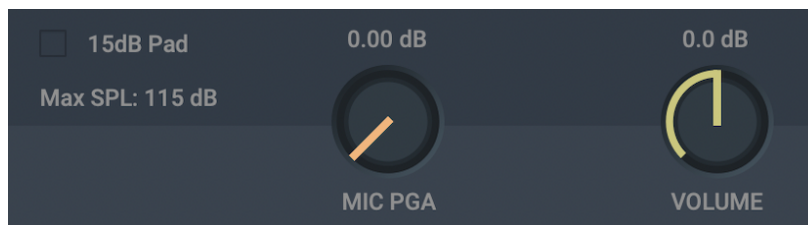

Figure 13: Gain stages in the “Live” tab.
Navigate to the “LIVE” tab (note that this tab is only available when an em64 is connected). The level meters indicate the signal level relative to full-scale levels (FS). For best Signal-to-Noise-Ratio (SNR), set the input gain so that the signal level is appropriate signal (i.e., roughly -20 dB re FS). The “LIVE” tab offers three gain stages (Figure 13), two of which are analog gain adjustments, and one is a digital gain (see Section 4.2 for more details). The gains should be adjusted clockwise (turn from left to right).